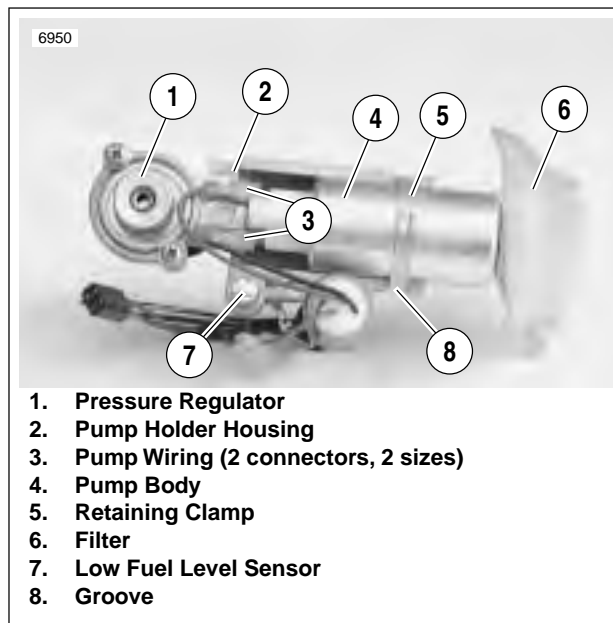

Figure 4-90. Fuel Pump Assembly
2. See Figure 4-90. Remove retaining clamp (5) from pump body (4) using a pair of cutters.
3. Pull pump outlet fitting from pump holder housing (2). Detach electrical wires (3) and discard old pump.
5. Attach both electrical connectors (3) to **new** pump. Note that connectors are two different sizes.
6. Press pump fitting outlet into pump holder housing (2).
7. Place a **new** retaining clamp (5) over pump body. Position clamp inside groove (8) on pump holder housing.